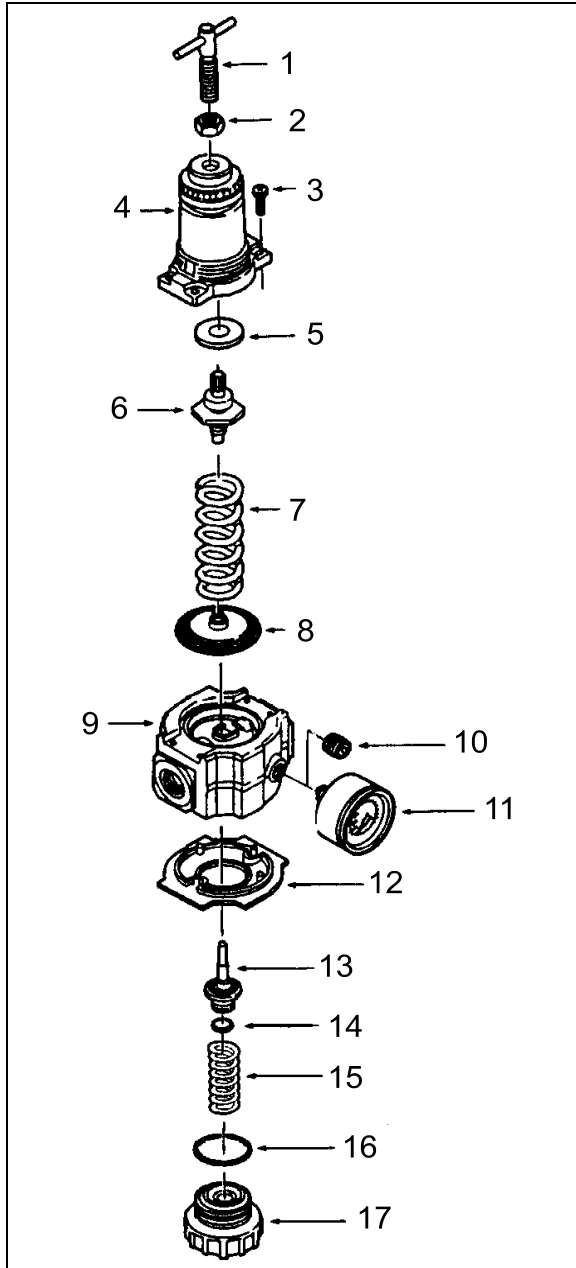

FIGURE 53: AIR PRESSURE REGULATOR
1. Before turning on system air pressure, release jam nut (2, Fig. 53) then turn regulator adjustment handle counterclockwise until the load is removed from the regulating spring.
5. Tighten jam nut (2, Fig. 53) to lock pressure setting.
1. Shut off inlet pressure and reduce pressure in inlet and outlet lines to zero. Turn regulator adjustment handle (1, Fig. 53) counterclockwise until all load is removed from regulating spring. Regulator can be disassembled without removal from air line.
1. Lubricate O-ring (14 and 16, Fig. 53), valve stem (13), tip of adjusting screw (1), and the outer circumference and both sides of the thrust washer (8) with a light coat of good quality O-ring grease.